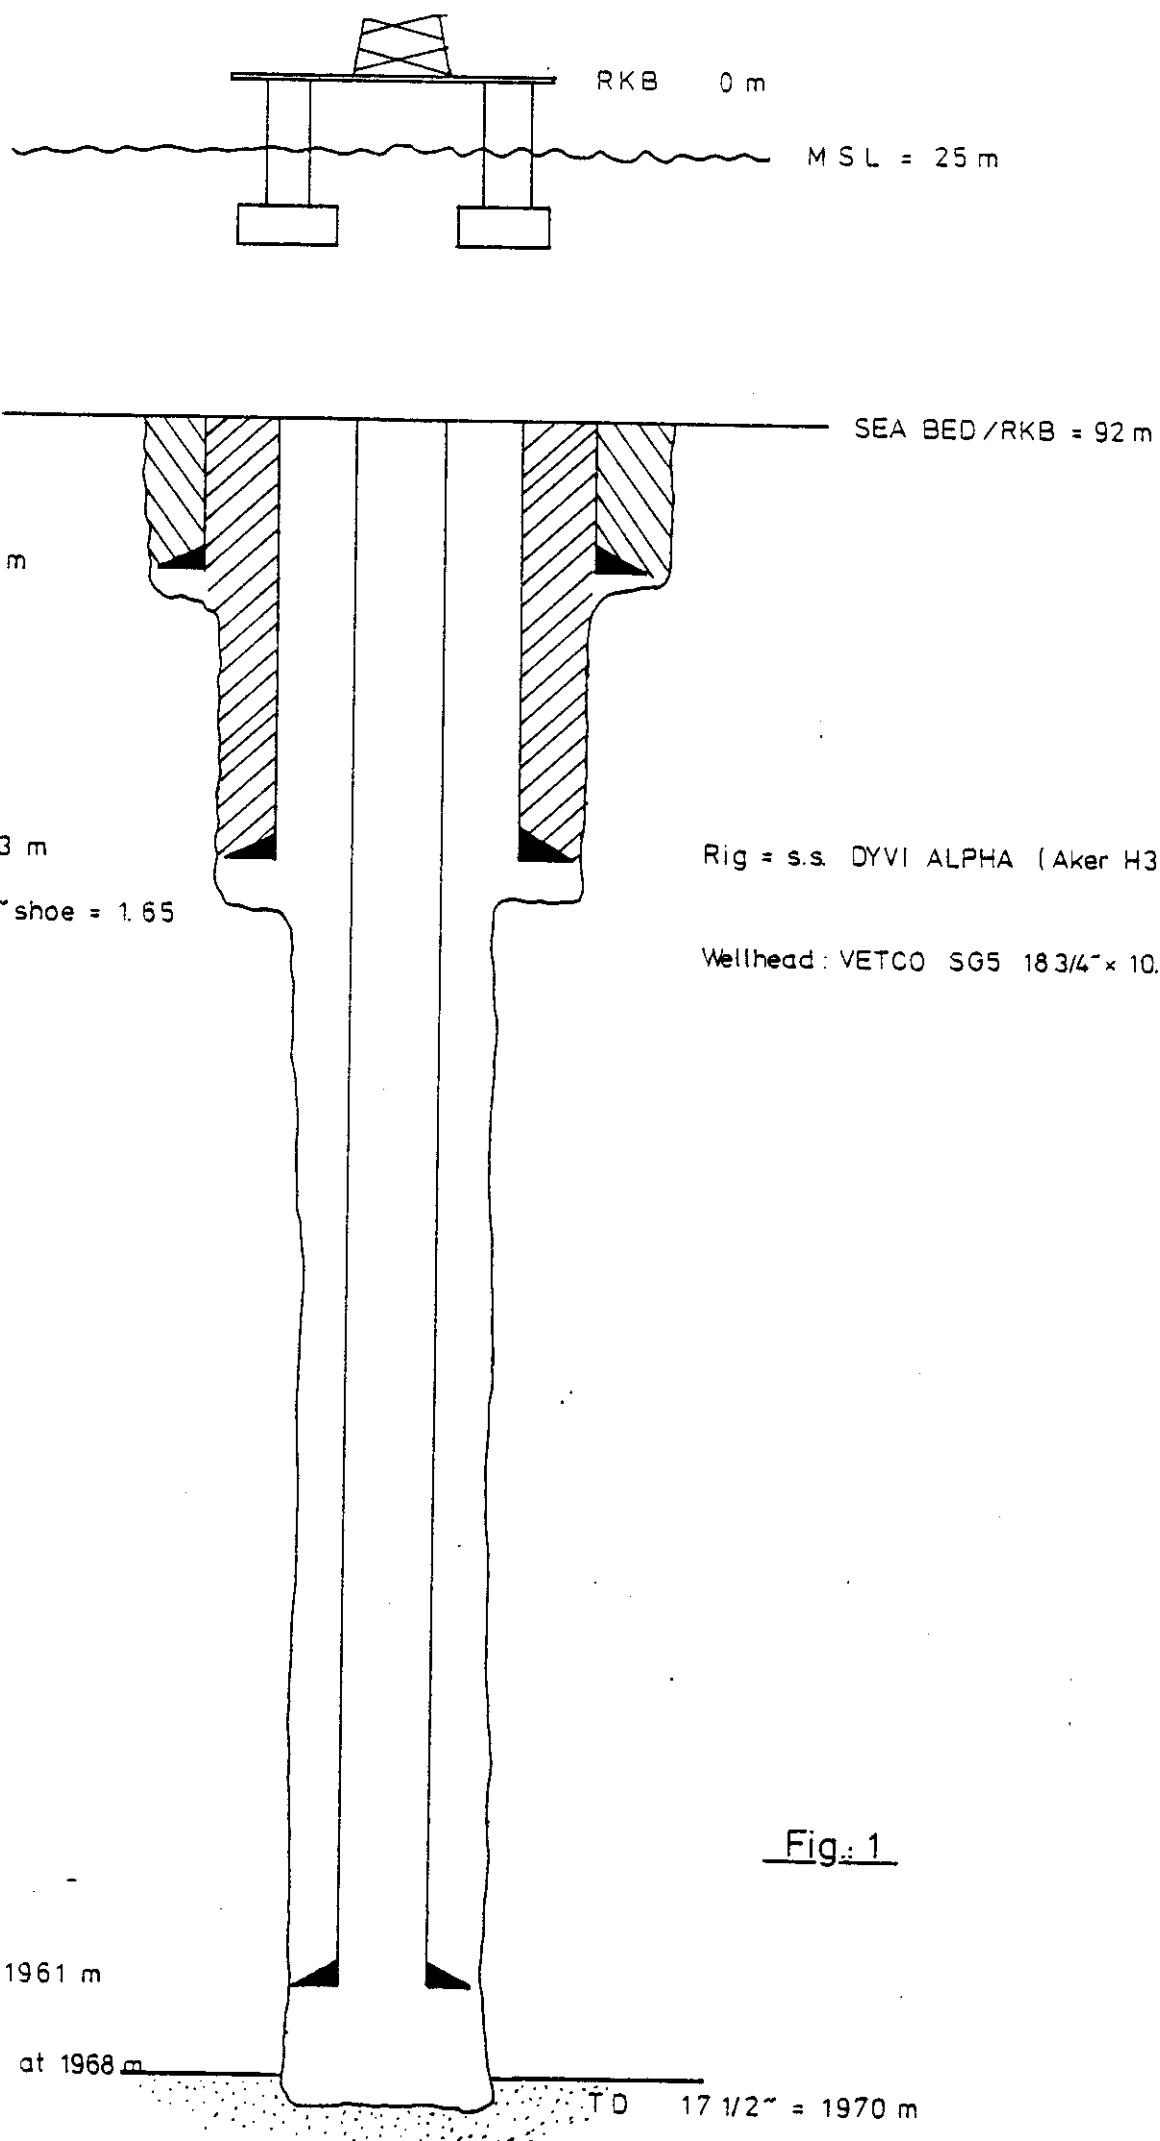

Fig. 1
- Ran 13 3/8" casing, shoe at 1961 m (Fig. 1)